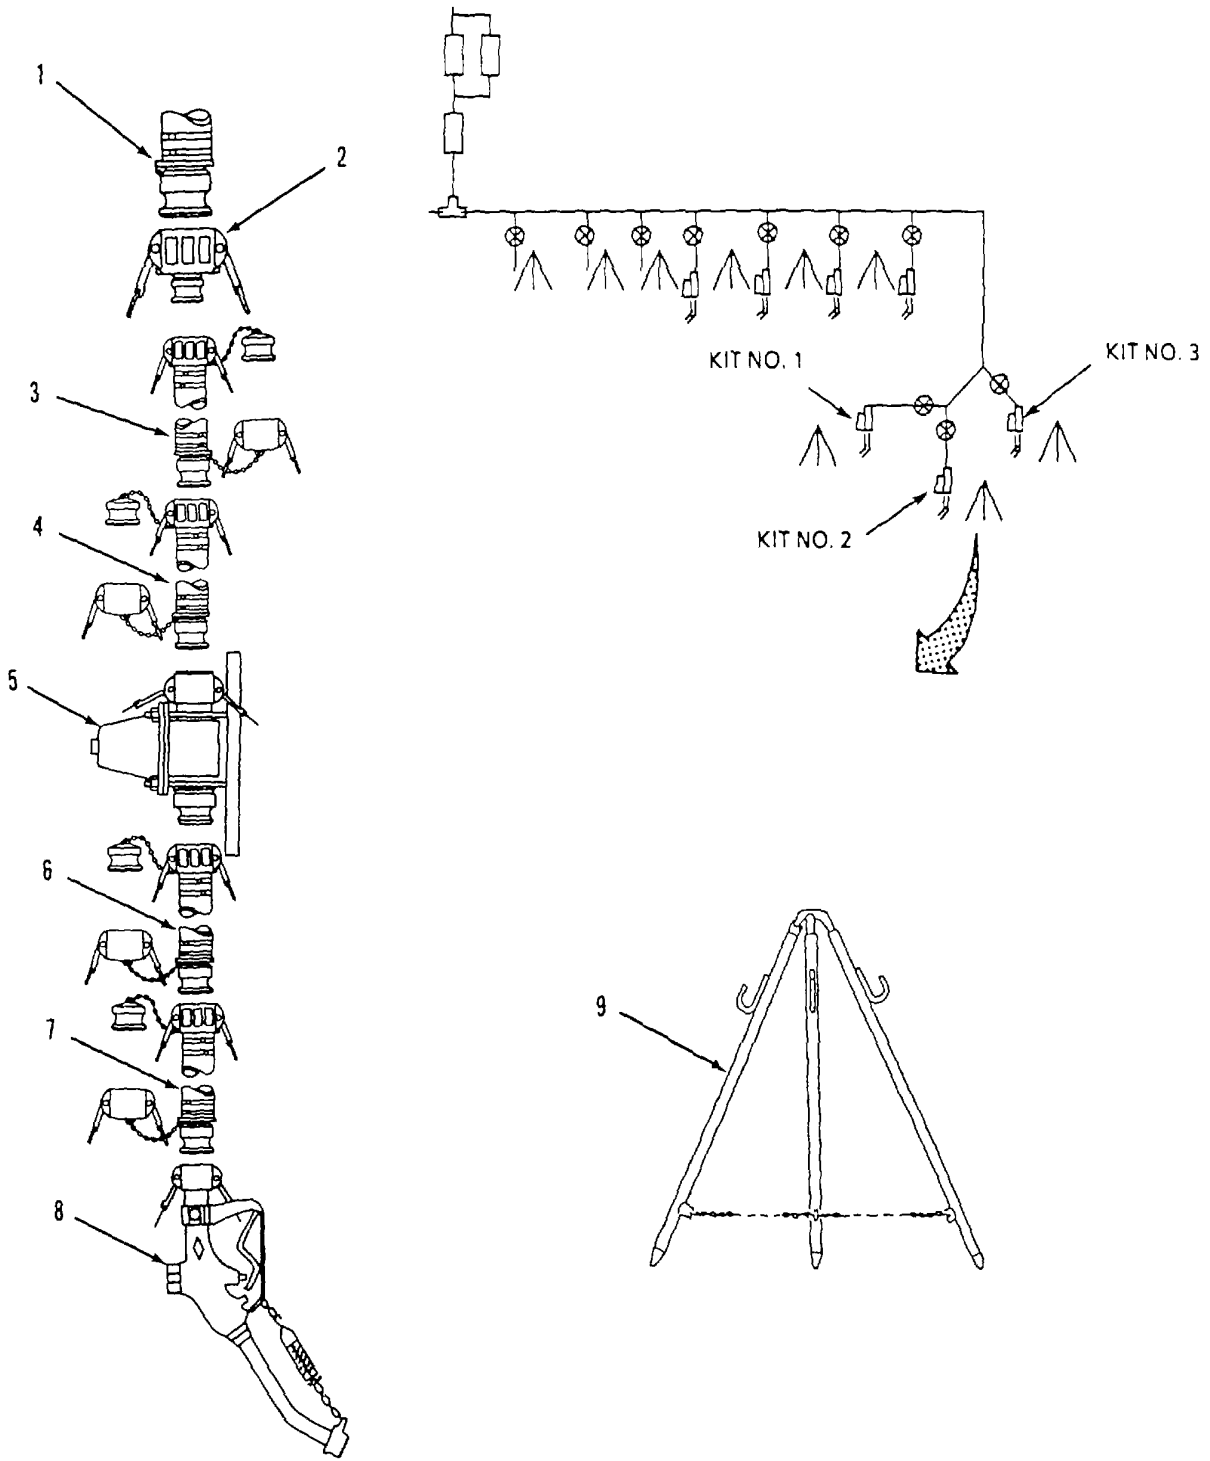

Figure 2-26. Hose and Nozzle Kit Disassembly.
- b. Disassemble hose and Nozzle Kits. Refer to figure 2-26.